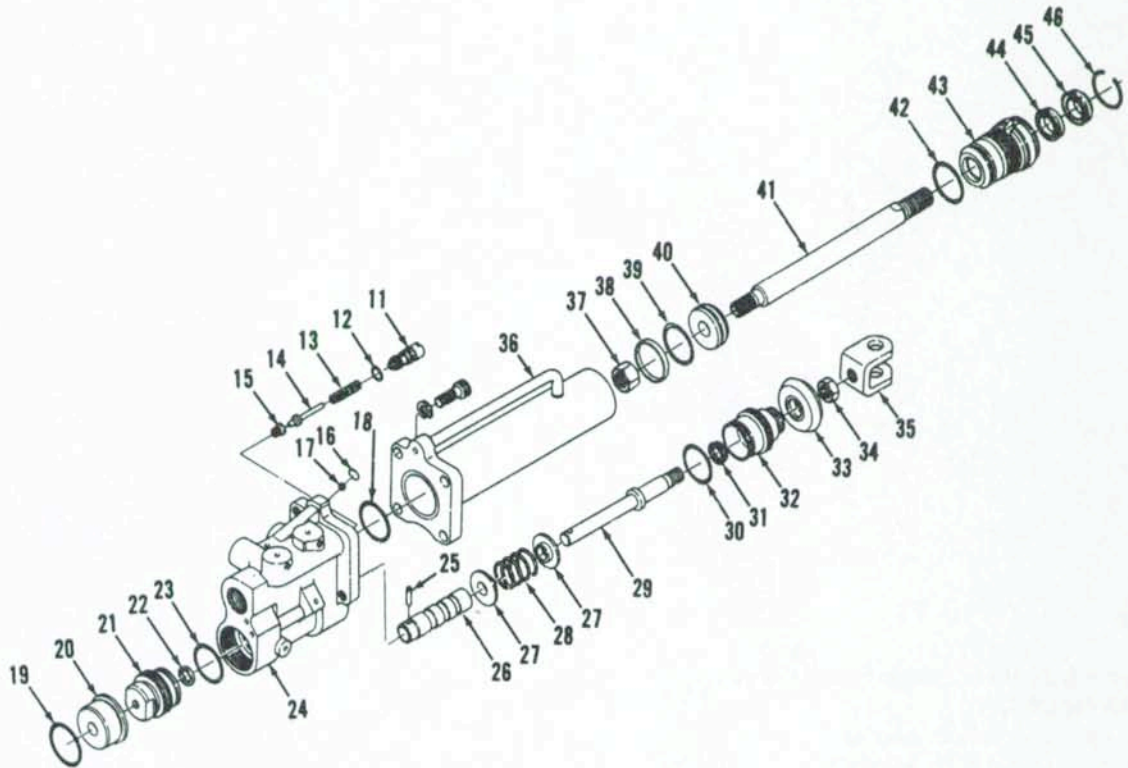

Fig. 9—Exploded view of steering assist cylinder and valve unit.
8. Power assisted steering is available and may be installed on any model. Refer to Fig. 8 for view of flow divider valve (1), steering valve and steering assist cylinder assembly (3), connecting hydraulic lines and attaching brackets. Most service will consist of removal, disassembly, cleaning and reassembly using new seals. Refer to Fig. 9 for exploded view of cylinder and valve unit.
To renew steering cylinder seals, remove ball joint end from cylinder rod (41—Fig. 9). Flatten the locking groove on the cylinder, then unscrew cap and bearing assembly (43) from cylinder (36). Withdraw cylinder